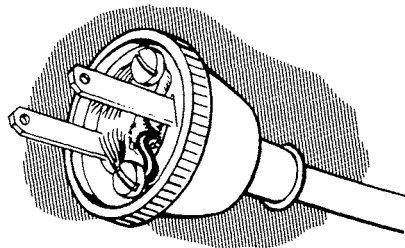

Figure 7
- 5. Plug connections fuzzy (Figure 7)